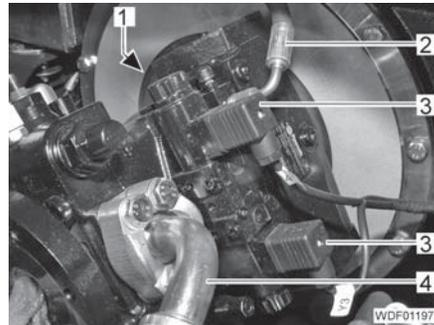
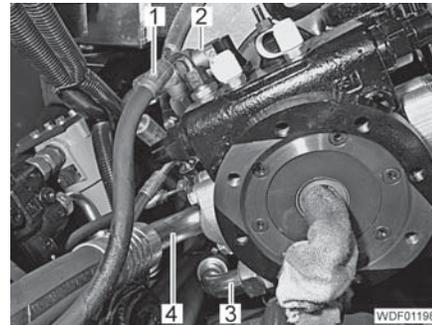

Fig. 114 Connections of variable displacement pump (left)
Fig. 115 Output end of the variable displacement pump
- Unscrew and close off the hydraulic line from the inching pedal (Fig. 114,2).
- Undo 1 screw on each of the connectors (Fig. 114,3), pull the connectors off the solenoid valves and protect the contacts (e.g. with a protective cap).
- Unscrew and close off the hydraulic line to the cross flushing connection (Fig. 115,2).
- Unscrew and close off the hydraulic line to the differential lock (Fig. 115,1).
- Unscrew and close off the hydraulic line from the combination filter (Fig. 115,3).
- Undo 4 screws on each of the flange halves of the two high pressure lines (Fig. 114,4 and Fig. 115,4) and remove the flange halves.
- Unscrew the 2 screws (Fig. 114,1).
- Tighten the 2 screws (Fig. 114,1) with spring lock washers and disks.
- Put each flange half for securing the high pressure lines (Fig. 114,4 and Fig. 115,4) into position and loosely screw in 2 screws with spring lock washers.
- Screw the hydraulic line from the combination filter (Fig. 115,3) onto the connection on the variable displacement pump and tighten.
- Screw the hydraulic line to the differential lock (Fig. 115,1) onto the connection on the variable displacement pump and tighten.
- Screw the hydraulic line to the cross flushing connection (Fig. 115,2) onto the connection on the variable displacement pump and tighten.
- Plug the connectors (Fig. 114,3) onto the solenoid valves and secure with 1 screw for each.
- Screw the hydraulic line of the inching pedal (Fig. 114,2) onto the connection on the variable displacement pump and tighten.